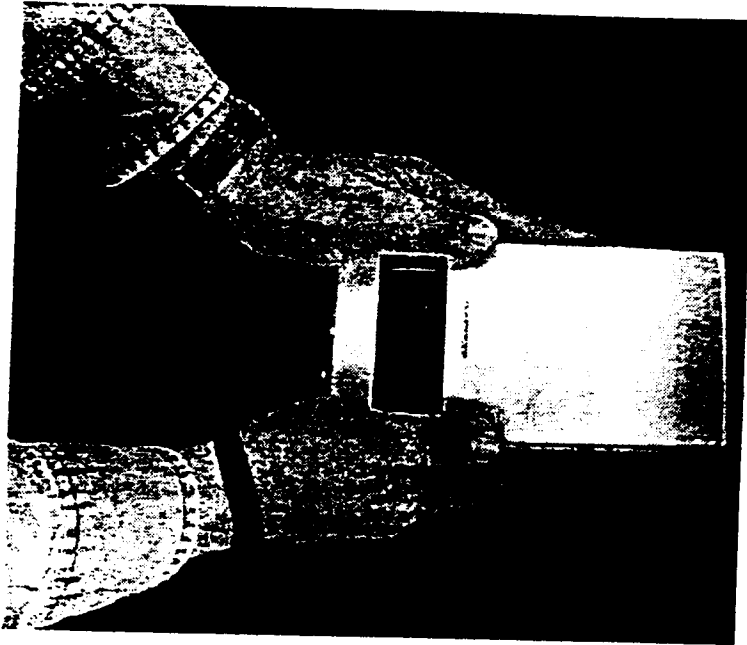

Figure 3-2 Correct Way to Hold Reader for Tag Scanning
- Step 1.** Slip the safety strap over your wrist and grasp reader from the sides (see Figure 3-2).